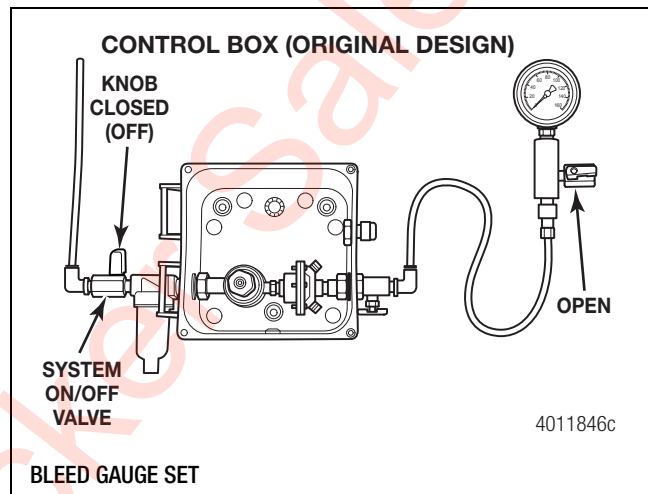
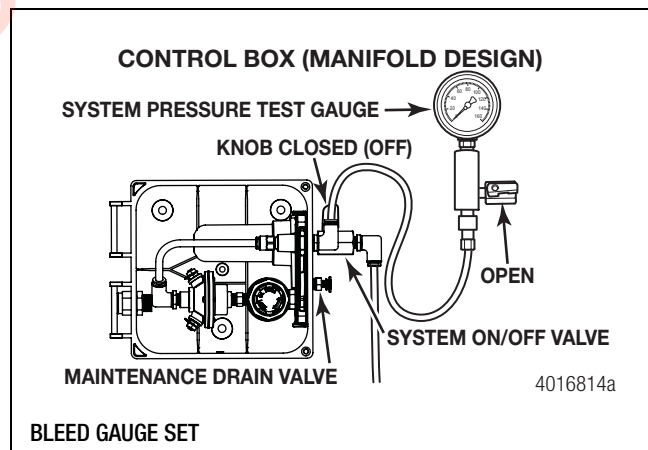

Figure 3.18
Figure 3.19
- A. Bleed the gauge set as follows. Figure 3.18 and Figure 3.19.